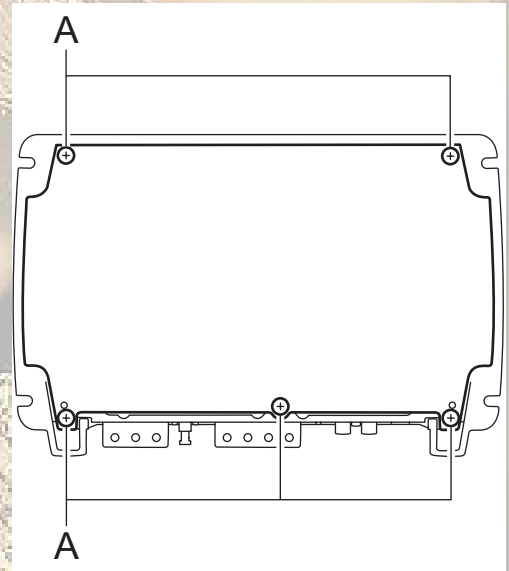

Fig.1
3.1.1 Removing the main board (See Fig.1 ~ 4)